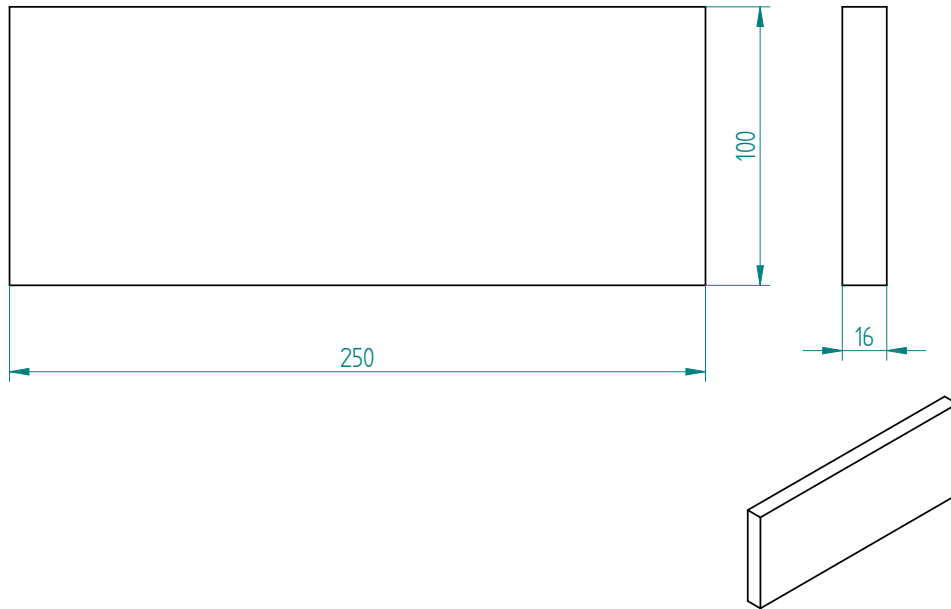

Figure A.4: Shaped part : **face-1-outsourcing** for **perpendicularator** tool
1. order the part in a joinery see figure A.4, page 124 for dimensions.